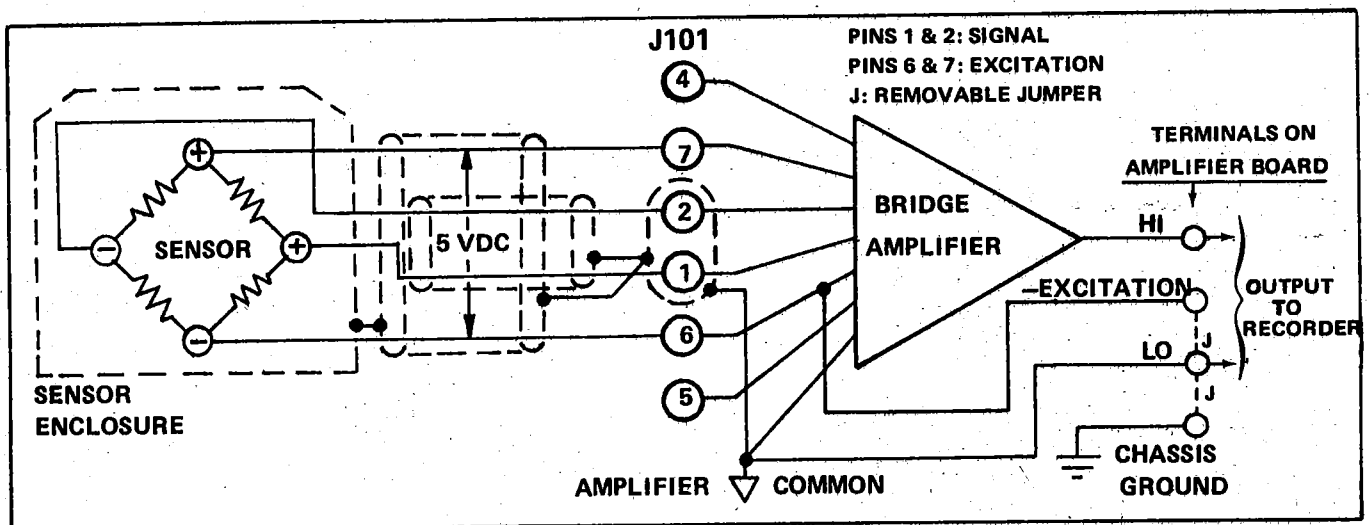

FIGURE 2-2 TYPICAL SIGNAL CONNECTIONS
2. Connect the double shielded signal cable pair to the pre-amplifier signal input connector pins 1 and 2, and the inner shield to the guard ring (Figure 2-2).
1. For most applications, with both the sensor and sensor enclosure floating, both dotted jumpers shown in Figure 2-2 should be in place.